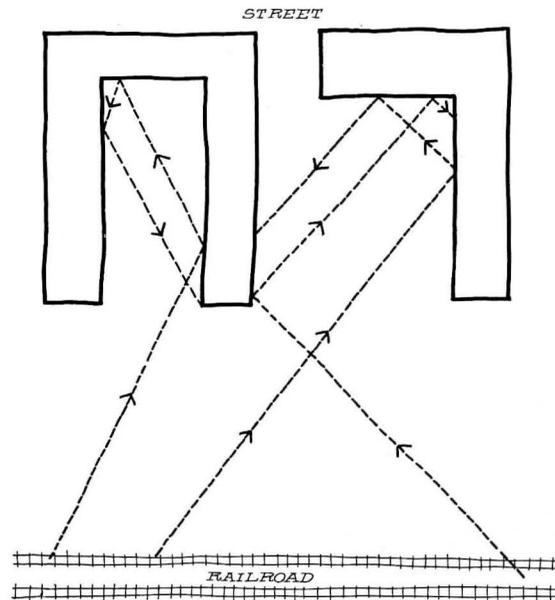

Fig. 1. An L- or U-shaped building may cause unforeseen focusing of sound around parts of the building
2. U- or L-section plans which may focus outside noises towards particular parts of the building. See Fig. 1.